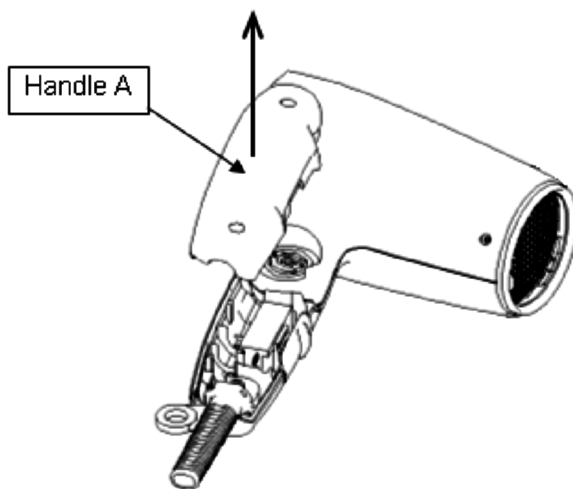

Figure 6
3. Take off a Handle A as same direction in figure 6.